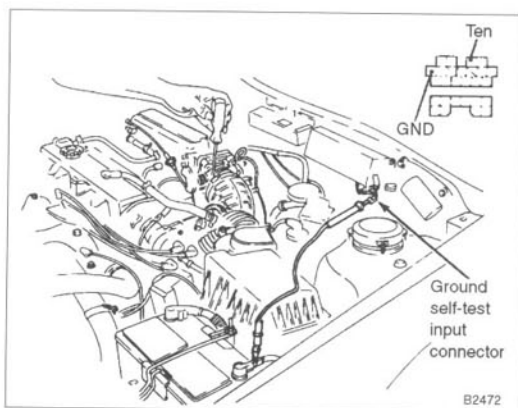

Fig. 5-4. Adjust MECS idle by turning adjusting screw next to throttle body. 2.2L shown; others similar.
- If not, adjust by turning air-adjusting screw, as in Fig. 5-4